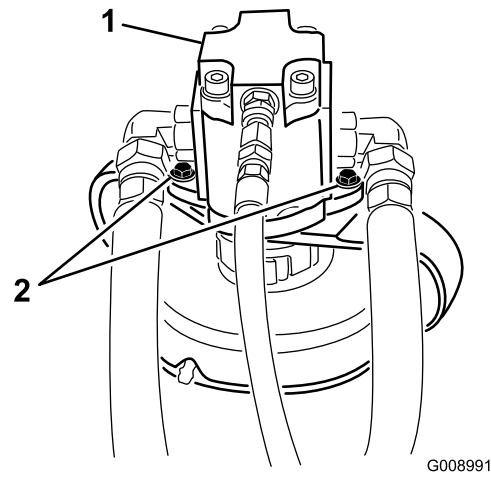

Figure 77
4. Remove the bolts securing the hydraulic motor to the cutting unit (Figure 77). Lift the motor off of the cutting unit and lay it on top of the cutting unit.
2. Remove the bolts securing the hydraulic motor to the cutting unit (Figure 77). Lift the motor off of the cutting unit and lay it on top of the cutting unit.